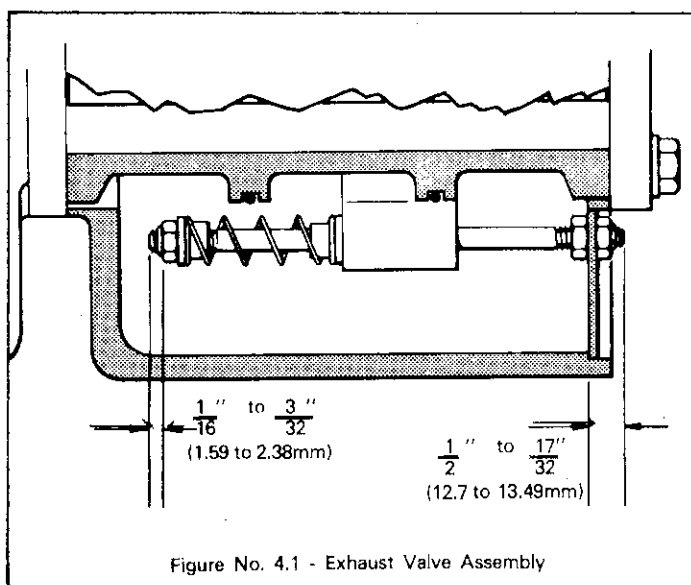

Figure No. 4.1 - Exhaust Valve Assembly
1. If the starter undergoing repair utilizes the exhaust valve assembly, begin by assembling the exhaust valve jam nut (16) to the exhaust valve shaft (15) using the proper thread locking compound and assemble to the dimensions shown in Figure No. 4.1.
2. Install the exhaust valve plate (17) and exhaust valve nut (18) and tighten securely.
3. Install the shaft assembly through the valve shaft bore in the air motor housing. See Figure No. 4.1.
4. Assemble the exhaust valve spring (13), guides (12 and 14), and nut (11) in Figure No. 4.1.